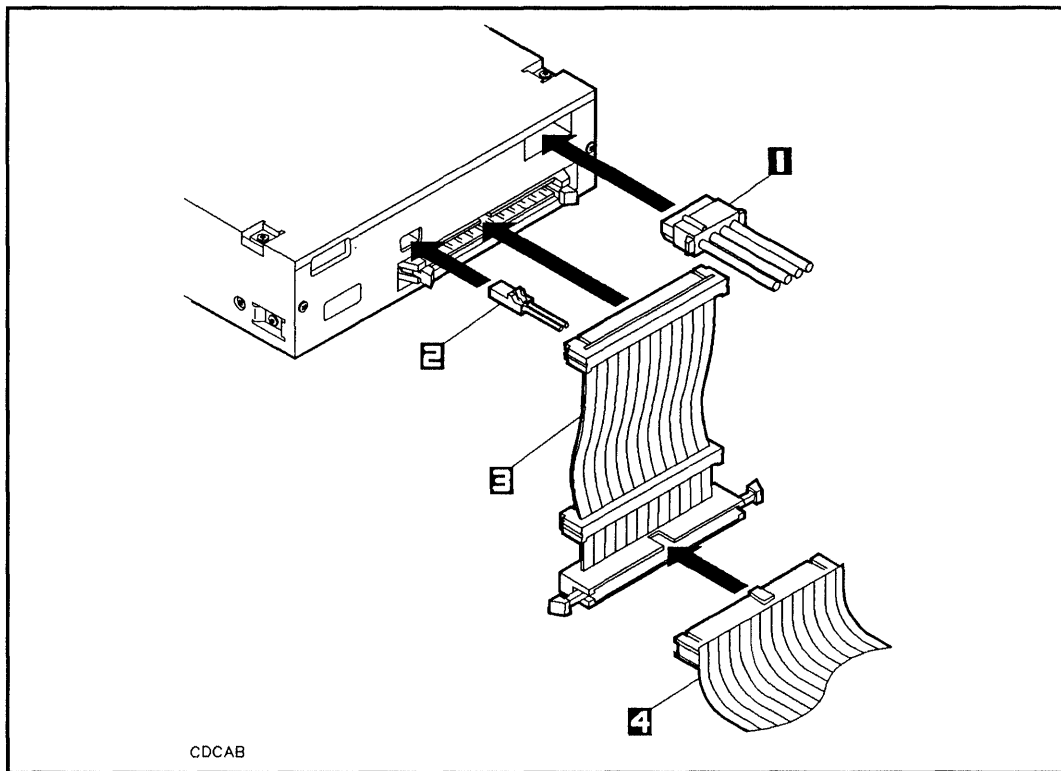
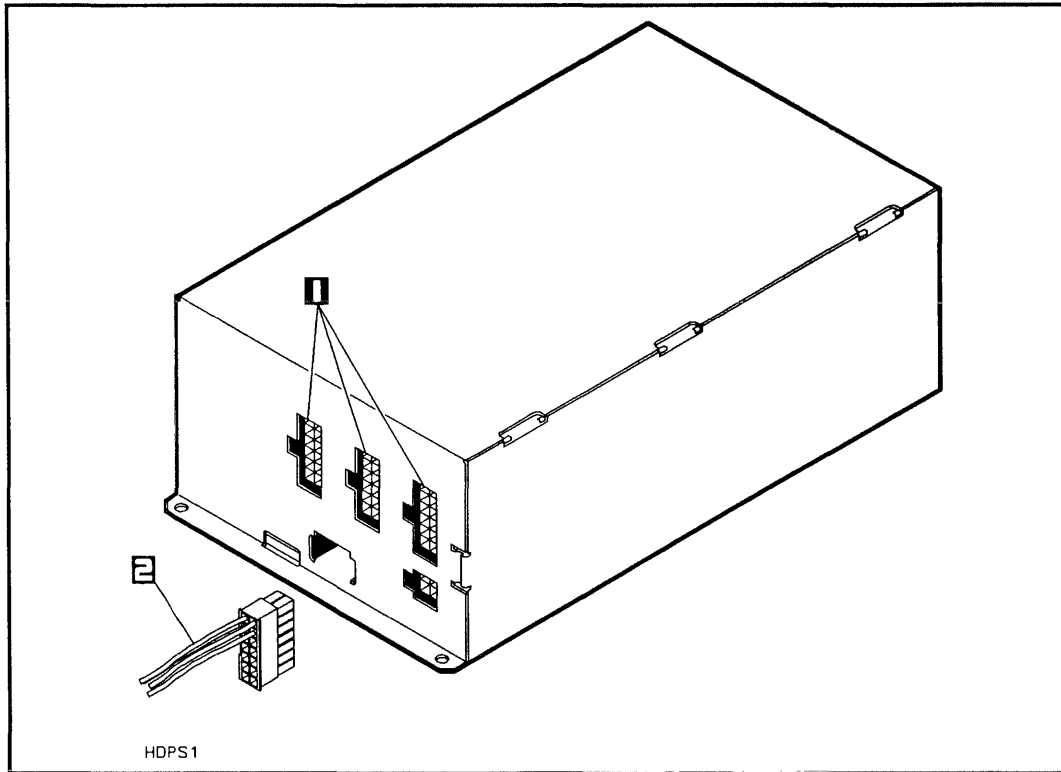

Figure 4-12. Connecting Cables to a CD-ROM Drive
Figure 4-13. Connecting the DC Power Cable
2. If you are installing only one CD-ROM drive, connect only one of the split ends of the dc dual power cable to the DC SUPPLY connector on the rear panel of the CD-ROM drive (see Figure 4-12), and connect the long end of the dc dual power cable to any of the unused dc power connectors on the power supply (see Figure 4-13).
If you are installing two CD-ROM drives, connect both of the split ends of the dc dual power cable to the DC SUPPLY connectors on the rear panels of the CD-ROM drives (see Figure 4-12), and connect the long end (with the 14-pin connector) of the dc dual power cable to the slot 3 power connector on the power supply (see Figure 4-13).
3. If you are installing only one CD-ROM drive, attach only the upper SCSI connector of the BEND/flex cable adapter to the SCSI connector on the rear of the CD-ROM drive (see Figure 4-12).